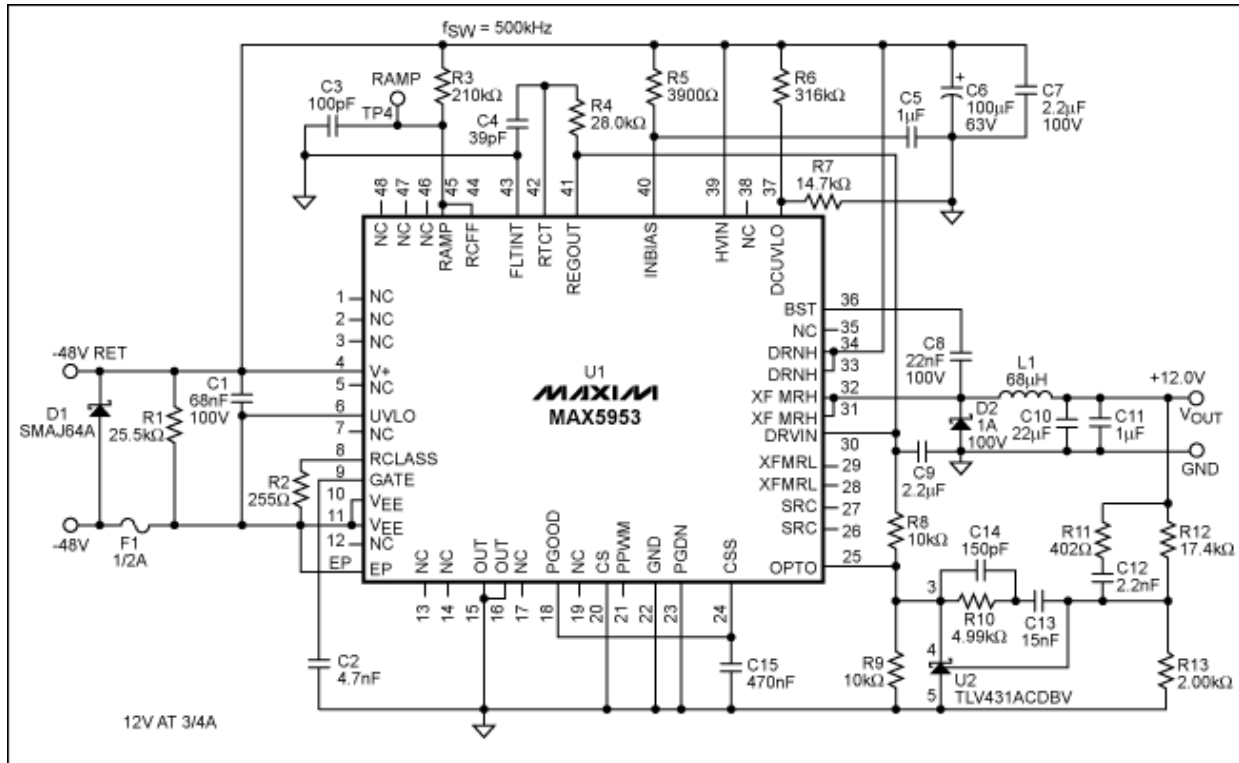

Figure 1. Schematic of the PD with a 12V, 0.85A buck converter.
*Abstract: The MAX5953A provides a simple and inexpensive, yet complete, nonisolated power solution for a powered device (PD) in a Power-over-Ethernet (PoE) system. The circuit provides the PD with detection and classification signatures in compliance with the IEEESM 802.3af standard, plus programmable inrush-current control, an integrated power switch, a PWM controller, and integrated high- and low-side switches. The buck step-down converter is capable of > 80% conversion efficiency while delivering 12V at 0.85A.*
The circuit of **Figure 1** is the complete powered device (PD) with a DC-DC converter providing up to 0.85A at 12V. Although the MAX5953A contains both high- and low-side switching FETs, the internal low-side FET cannot be configured as a synchronous catch diode. Consequently, the buck converter uses only the high-side FET. Because the current-limiting circuit within the IC operates using voltage-drop information derived from current flow through the low-side FET, this circuit contains no automatic current limiting. The included fuse, F1, provides short-circuit protection at startup.